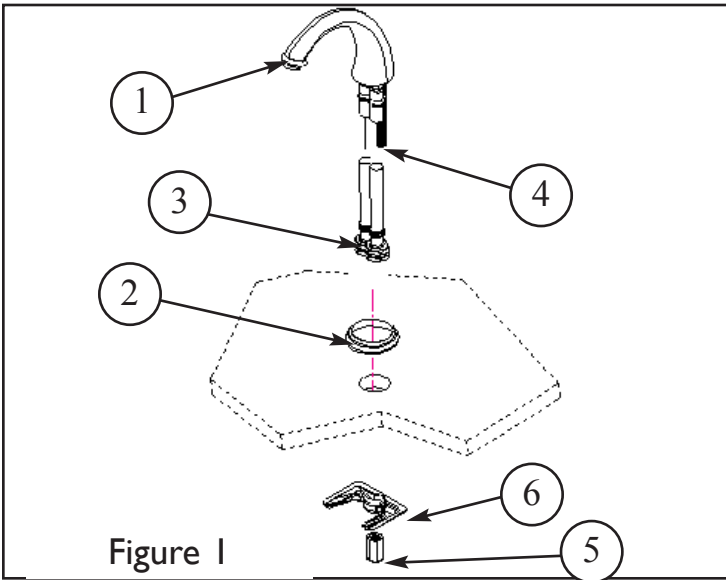

Figure 1
1. Insert HOSES (3) and MOUNTING STUD (4) through ESCUTCHEON (2) and sink hole, (apply putty or silicone to underside of ESCUTCHEON (2)). Align SPOUT (1) and secure into place with mounting BRACKET (6) and NUT (5). See Figure 1.